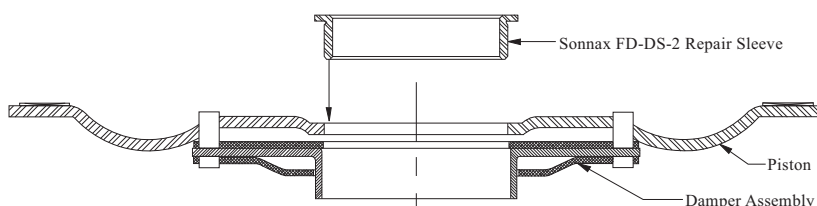

Figure 2
6. Place repair sleeve **FD-DS-2** in the piston damper assembly, making sure the flange is pressed firmly against the machined surface from step 4 (see Figures 2 and 3).